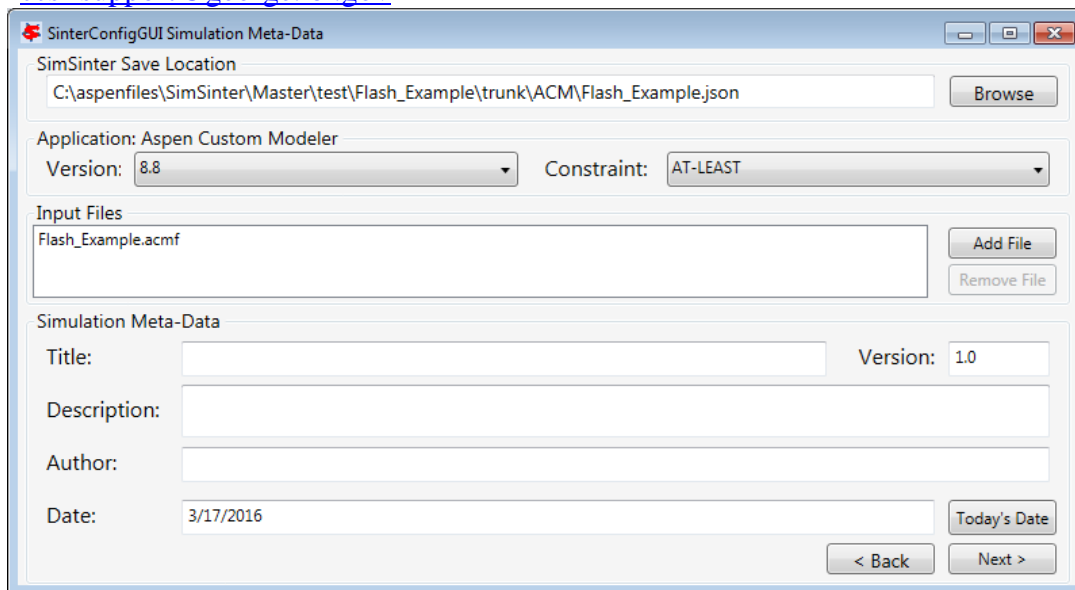

Figure 6: Meta-Data window
7. The SinterConfigGUI Simulation Meta-Data window displays as shown in Figure 6. Also, the Aspen Custom Modeler has started up in the background. This is so the user can observe things about the simulation in question as they work on the configuration file
8. If you see the window in Figure 6, SimSinter is working properly and can properly open simulators. If you wish to continue this tutorial, and configure the simulation, please see the tutorial section of the SimSinter User Manual. It includes sections on configuring simulations for Aspen Custom Modeler, Aspen Plus, and Microsoft Excel.